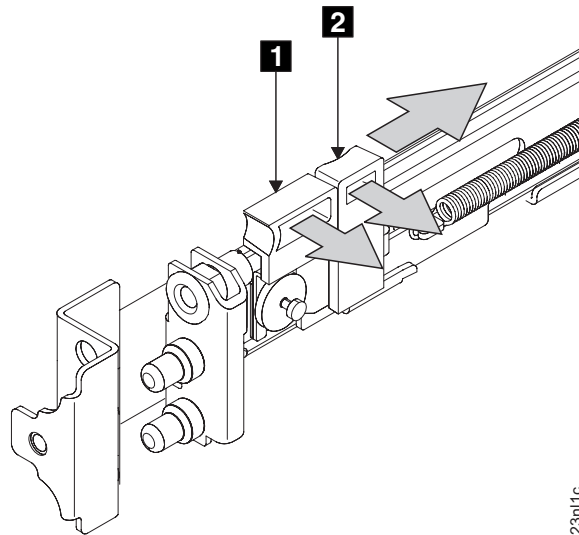

Figure 44. Opening the front latch-lock carrier assembly
3. Gently push the latch lock **2** away from the rail as you move the latch lever **1** toward the far end of the rail (Figure 44). The latch-lock carrier assembly slides against the spring tension.